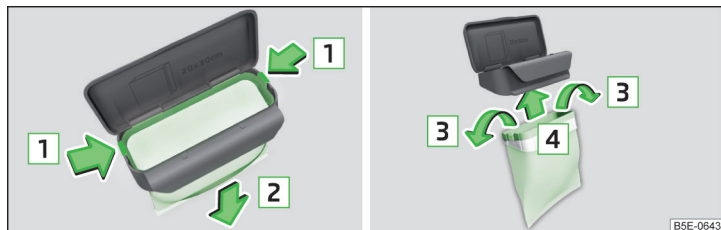

Fig. 85 Replace bags
- › Press the two locking lugs on the frame in the direction of arrow » Fig. 85.